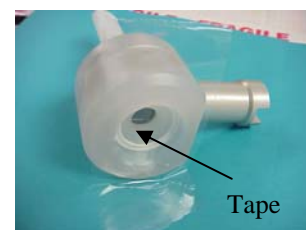

Figure 1
Step 1) Place a strip of wide transparent tape over the opening of the valve. Refer to Figure 1. Make sure the tape is making a good seal around the top circumference of the valve by running your fingers around the top.